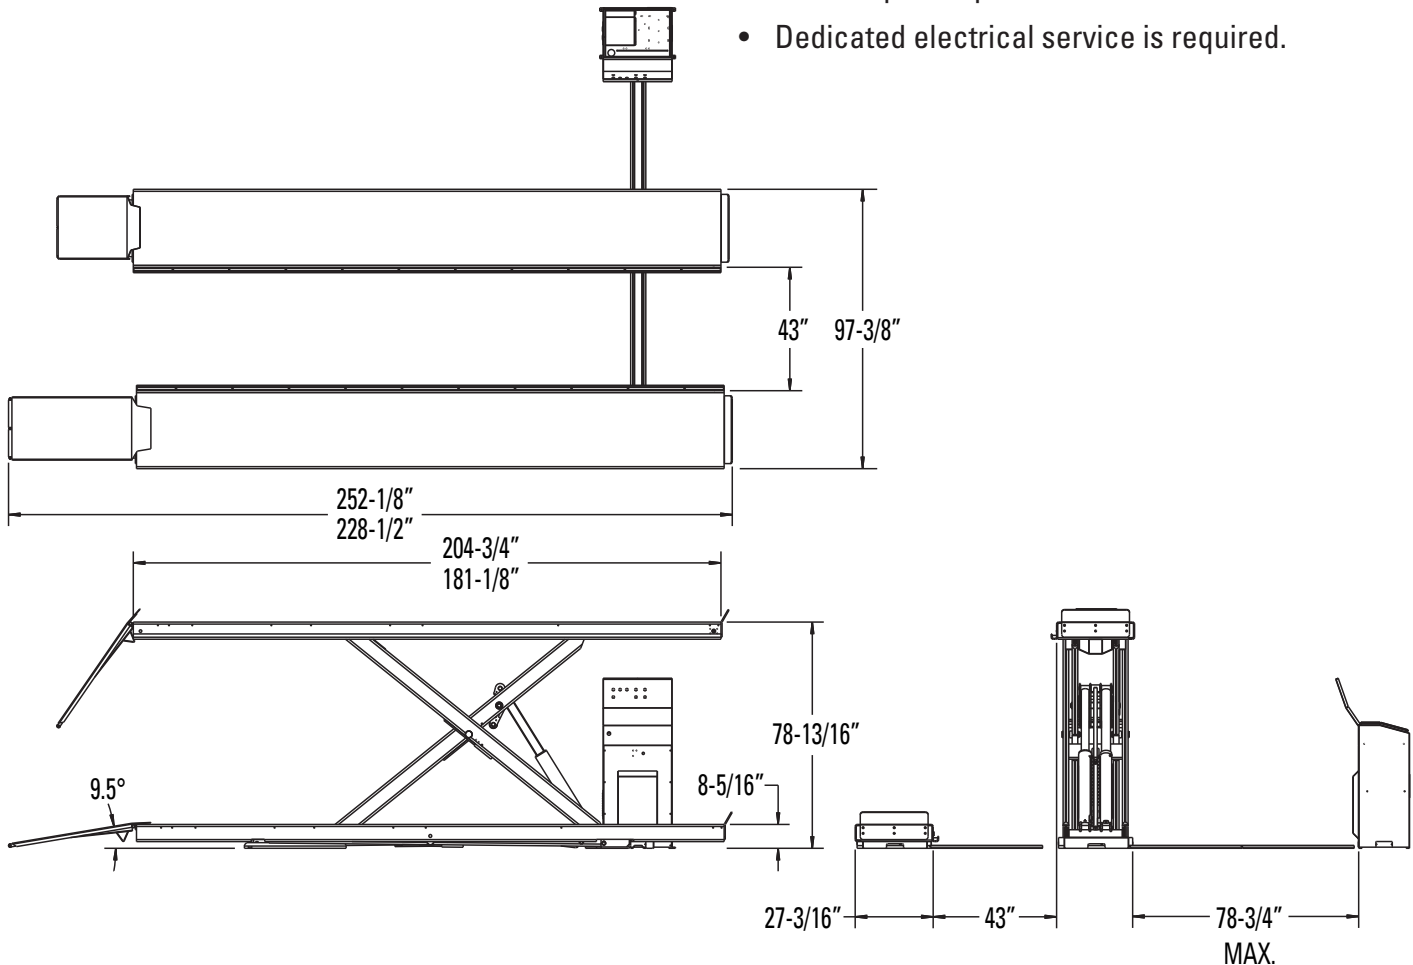

Fig. 1.1
- Place the control console in position as shown in Fig 1.1.